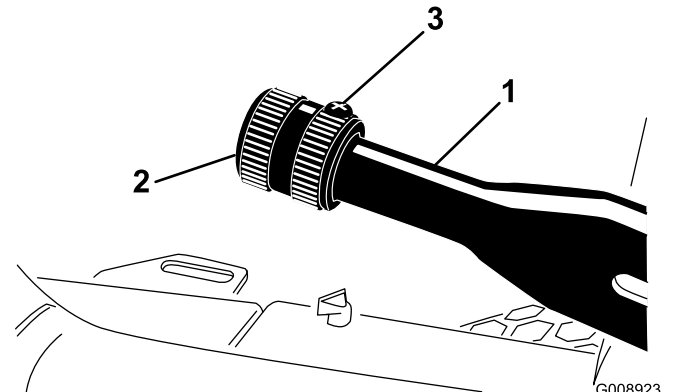

Figure 70
1. Loosen the set screw that secures the knob to the parking brake lever (Figure 70).